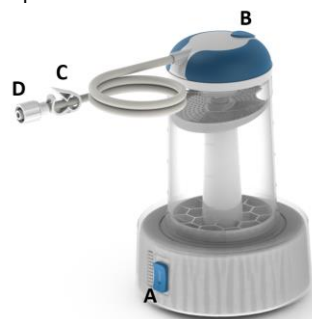

Figure 1: Aspiration Canister
The CLEANER Vac™ Aspiration Canister is a fully disposable and sterile 400cc Aspiration Canister with an integrated pump and connected aspiration tubing. The Aspiration Canister contains a power switch with adjacent vacuum indicator (A), removable lid, and Vacuum Release Button (B). The aspiration tubing contains a Tubing Clamp (C) and connector (D) to the Handpiece. The Aspiration Canister is shown in Figure 1.